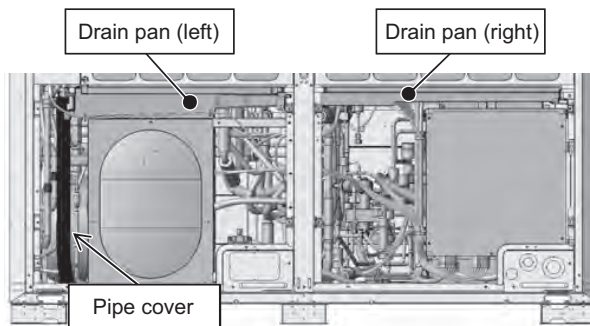

Figure 2
- (3) Remove the cable straps holding the weak and strong electrical wirings. (See Figure 2.)
- (5) Remove the drain pan cover by unscrewing the screw and cutting the cable tie. (See Figures 2 and 3.)
- (6) Remove the drain pan by unscrewing the two screws. (See Figure 2.)
Be sure to remove the two rod holders holding the check joints to the drain pan. (Figures 2 and 3 show the cable ties to be cut.)
- (2) Remove the drain pan cover by unscrewing the screw and cutting the cable tie. (See Figures 2 and 3.)
When re-placing the drain pan cover after the completion of maintenance work, make sure that the silicon tube is properly placed on the defrost pipe, and then fix the drain pan cover in place with a cable tie. (Figures 2 and 3 show the cable ties to be cut.)
- (3) Remove the drain pan by unscrewing the two screws. (See Figure 2.)
Cut the cable tie. Figure 2